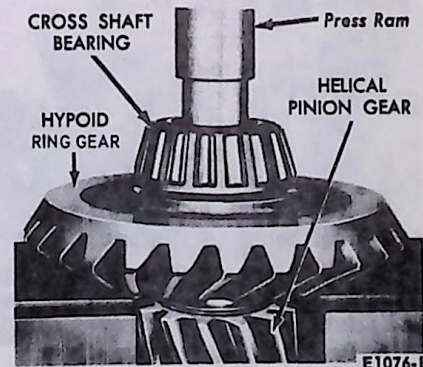

FIG. 16 Removing Cross Shaft Bearing and Hypoid Ring Gear
2. Press the cross shaft out of the hypoid ring gear and the bearing next to the gear (Fig. 16). Remove the Woodruff key that holds the gear on the shaft.